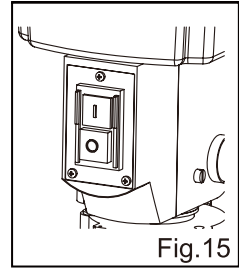

Fig.15
This machine is fitted with a “No Volts Switch”. In the event of a mains power failure or if the mains plug is removed from the mains supply socket before the machine is switched off, the machine will not restart without warning when the mains supply is restored or the mains plug is re-connected to the mains supply, until the machine is switched ON at the ON/OFF switch(11) fitted to the machine. To start the machine press the green ON button. To stop the machine, press the red OFF button(Fig.15).